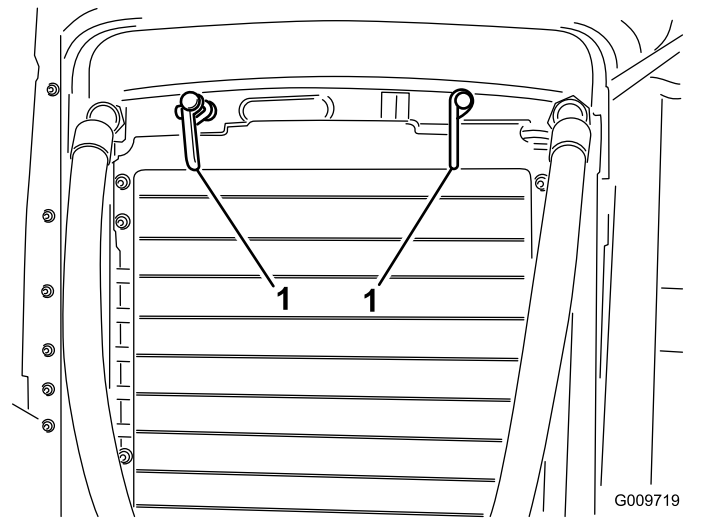

Figure 51
2. Rotate latches (Figure 51) securing the oil cooler to the frame.